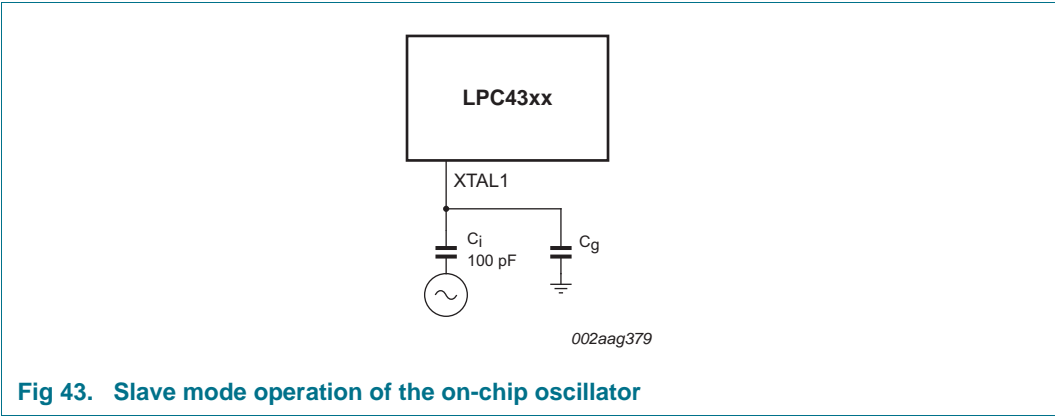

Fig 43. Slave mode operation of the on-chip oscillator
- In slave mode, couple the input clock signal with a capacitor of 100 pF (C_C in Figure 43), with an amplitude of at least 200 mV (RMS). The XTAL2 pin in this configuration can be left unconnected.
An external clock can be connected to RTCX1 if RTCX2 is left open. The recommended amplitude of the clock signal is $V_{i(\text{RMS})} = 100$ mV to 200 mV with a coupling capacitance of 5 pF to 10 pF. $V_{i(\text{RMS})}$ must be lower than 450 mV. See Figure 43 for a similar slave-mode set-up that uses the crystal oscillator.